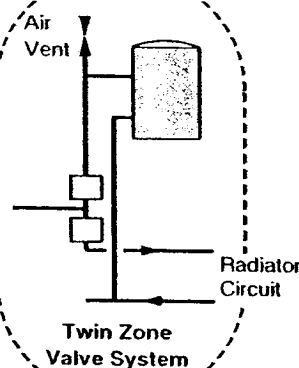

Fig. 3
- A system using twin zone valves (e.g. Honeywell 'S' Plan) (Fig. 3).